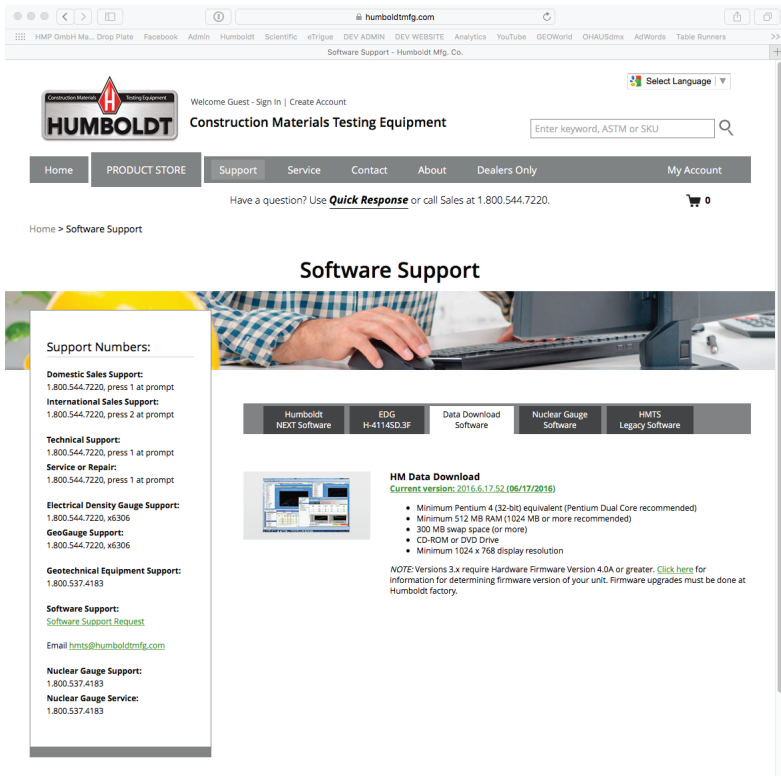

Figure 20
- e. The screen illustrated in Figure 20 below will appear.